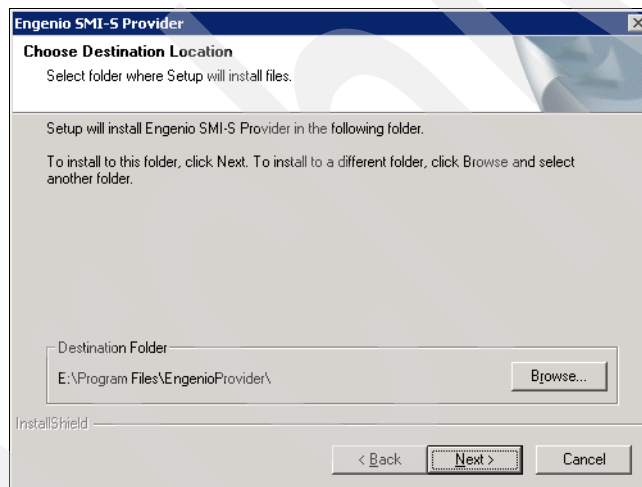

Figure 9-6 Choose Destination Location window
5. Click **Browse** to choose another location or click **Next** to begin the installation of the CIM agent (Figure 9-6).